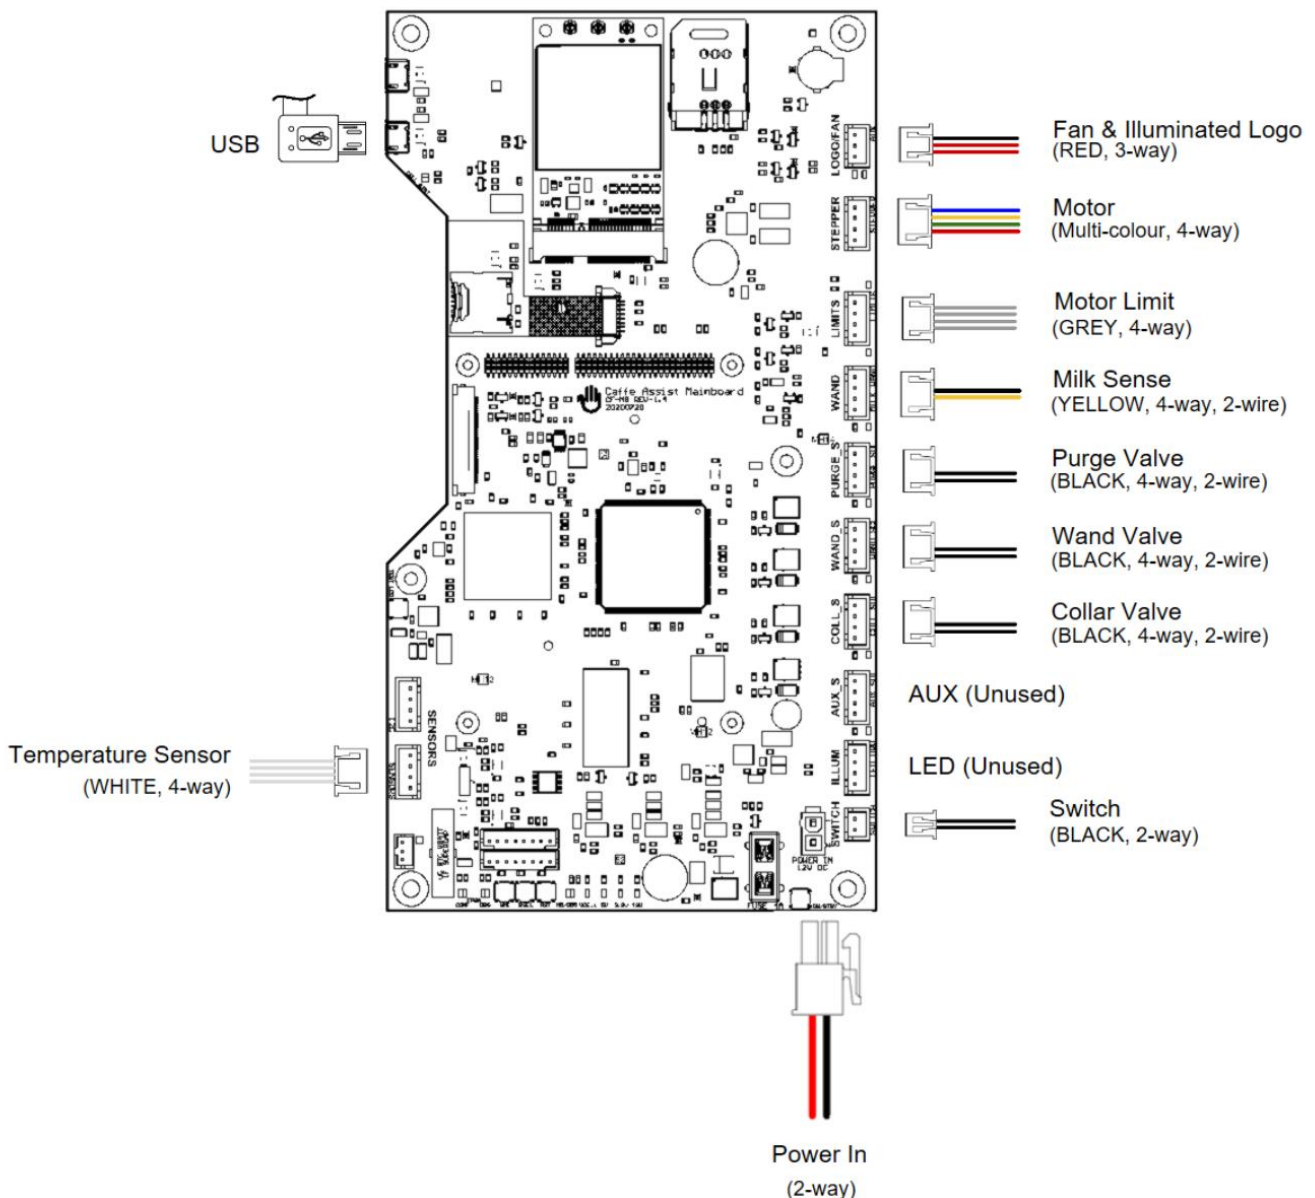

Figure 35: Mainboard Loom Connections (Rear view)
3. Disconnect all loom connections going to the main board as shown in Figure 35 below.